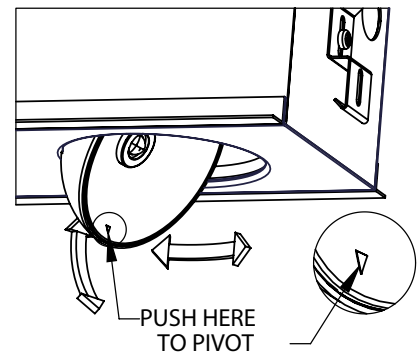

Figure 1: Head Adjustment
9. Adjust the lamp heads to their desired orientation. The heads can pivot and rotate. Apply force to the small triangle on the head to pivot the lamp head. Grab the lamp head and twist to rotate. Avoid touching the lens for optimal light output. (Figure 1)